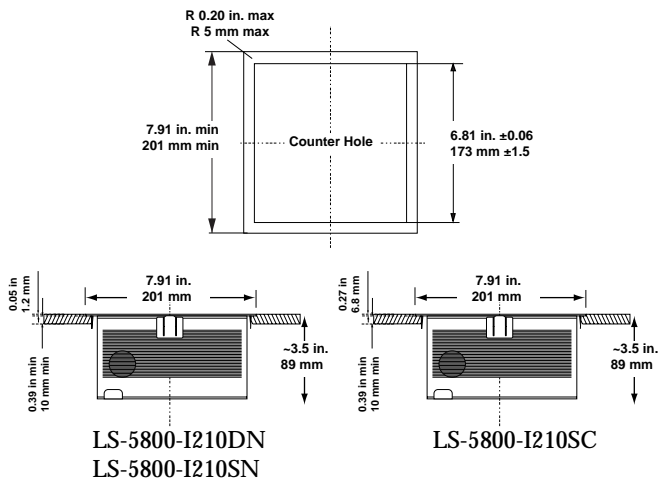

Figure 2-14. Stainless Steel Top Option B
1. On the counter top, measure two concentric squares: an inside square of 6.81 in. (173 mm), and an outside square of 7.91 in. (201 mm) (Figure 2-14)